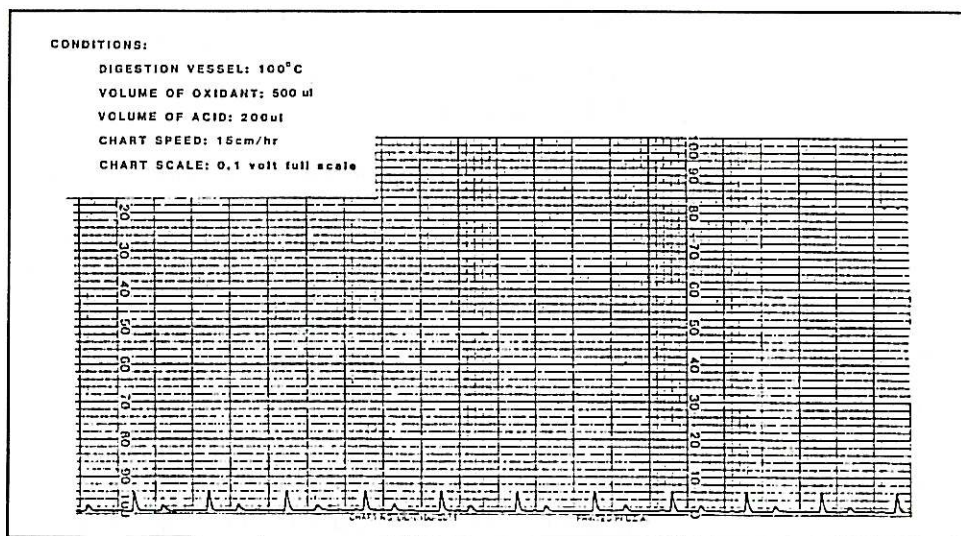

Fig. 4.15 Amplified Chart Trace of Blanks and Base Line
- When blanks are consistent, they should be averaged and entered into memory. Access to blank values is the same as described earlier in the Calibration Constants display mode. See Fig. 4.15 and Fig. 4.16 for typical blanks chart recorder trace and printout.